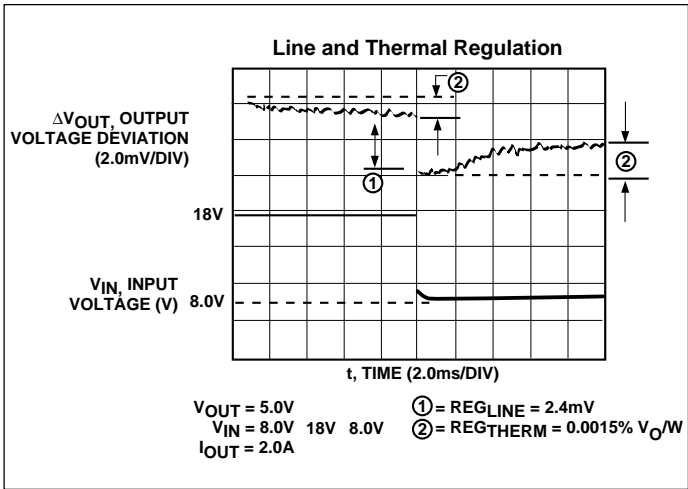
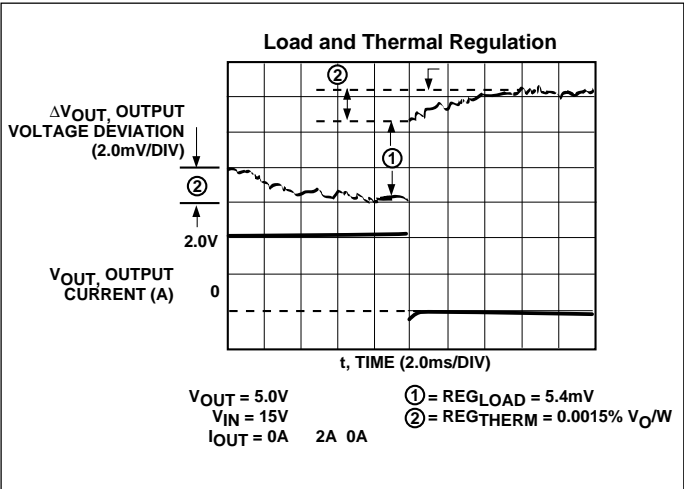

Figure 1. Line and Thermal Regulation
Figure 2. Load and Thermal Regulation
Figure 1 shows the line and thermal regulation response of a typical TC323A to a 20W input pulse. The variation of the output voltage due to line regulation is labeled ① and the thermal regulation component is labeled ②. Figure 2 shows the load and thermal regulation response of a typical TC323A to a 20W load pulse. The output voltage variation due to load regulation is labeled ① and the thermal regulation component is labeled ②.